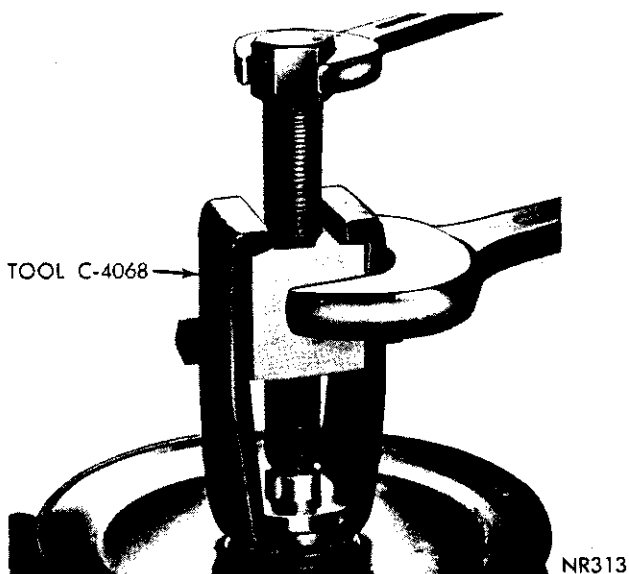
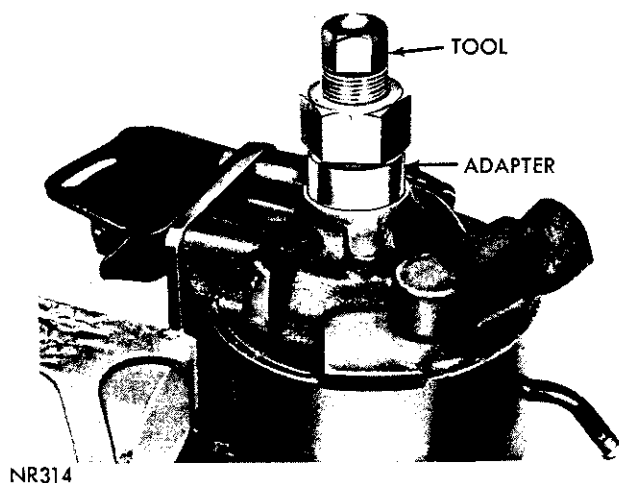
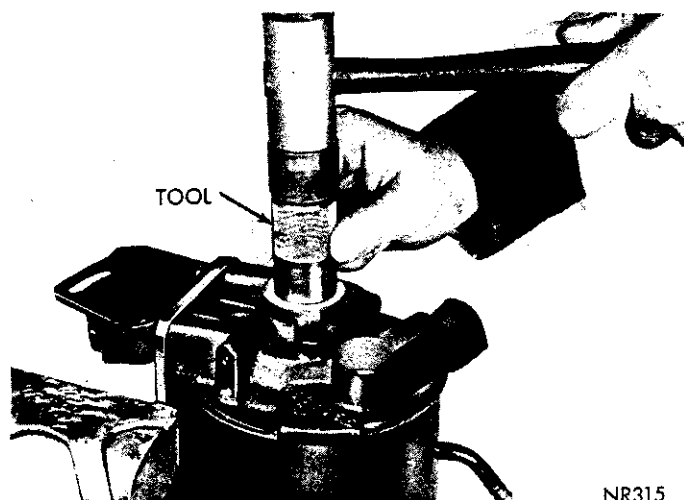

Fig. 21—Removing Drive Pulley (1.06 Pump)
Fig. 22—Removing Shaft Seal
Fig. 23—Installing Shaft Seal
(1) Remove pump from engine. Drain reservoir and clean exterior before servicing.
(2) Clamp pump in vise securely at mounting bracket.
(3) Remove pulley with Tool C-4068 (Fig. 21).
(4) Position seal remover adapter SP-5323A over end of drive shaft with large opening toward pump.
(5) Place seal remover Tool C-4062 over shaft, through adapter and screw tapered thread well into metal portion of seal. Tighten large drive nut and remove seal. (Fig. 22).
(6) Inspect seal bore in housing for burrs, nicks or score marks that would allow oil to by-pass outer seal surface.
(7) Inspect shaft for scratches or burrs, if any, remove with crocus cloth. Lubricate new seal and install with lip toward pump. Use Tool C-4061 to drive seal flush with housing (Fig. 23).
(2) Clamp pump securely in vise at mounting bracket.
(4) Remove oil seal as described in "Oil Seal Replacement" section.
(5) Remove pump from vise and remove three mounting bracket bolts, remove bracket.
(6) Remove reservoir and place pump in vise with shaft down (use vise with soft protective jaws). Discard mounting bolt and reservoir "O" rings.
(7) Using a punch, tap end cover retaining ring